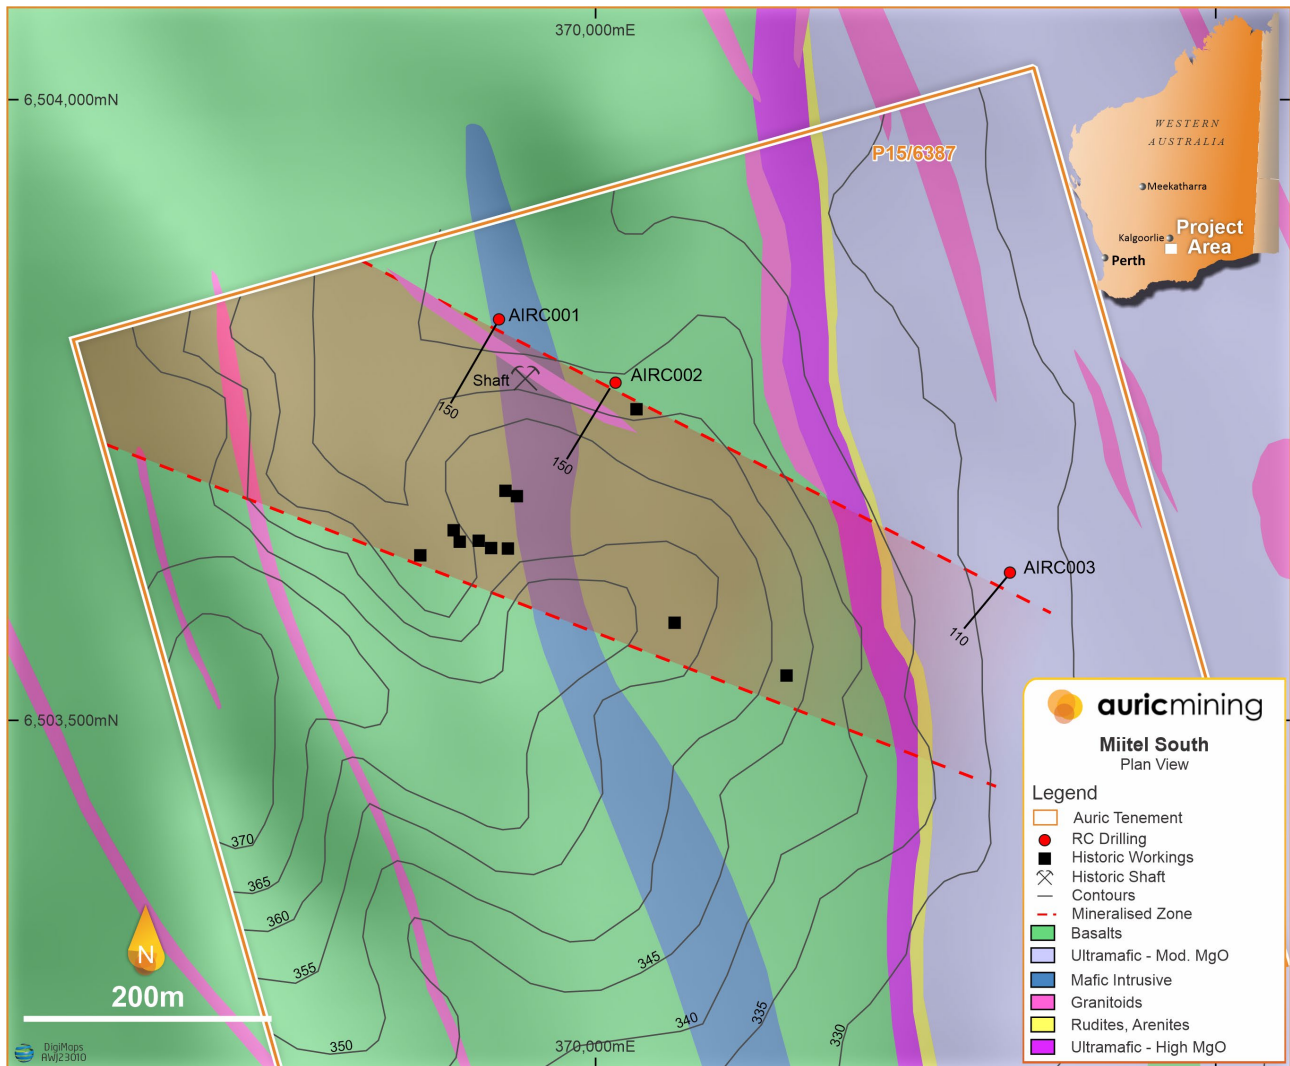

Figure 1. Miitel South Prospect and RC drill holes
Auric Mining Limited (ASX: AWJ) (Auric or the Company) provides the following update on recently completed drilling at the Company's Miitel South Prospect near Widgiemooltha-Norseman, Western Australia. Drilling was completed in February 2023 with 3 Reverse Circulation (RC) holes drilled for 410m (Figures 1 and 4).
The Miitel South drilling followed on from a program at the Company's Chalice West Project¹. Planning envisaged 8 RC holes at Miitel South to target the gold mineralised trend shown in Figure 1 from both the north and south. However, access proved difficult. Only 3 of the planned holes were completed, all from the north, for a total of 410m.